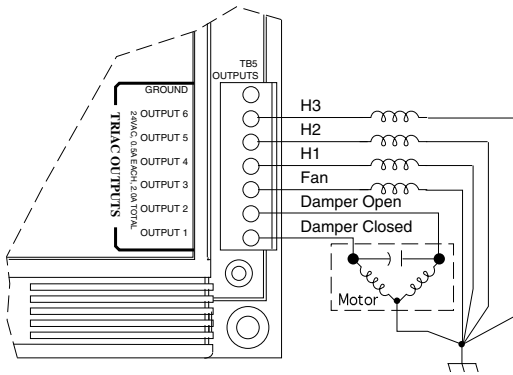

Figure 7. Output Device Connections
1. Connect one lead of the control relays to TB5 – 1 through TB5 – 6 (Output 1 through Output 6) as shown in Figure 7.